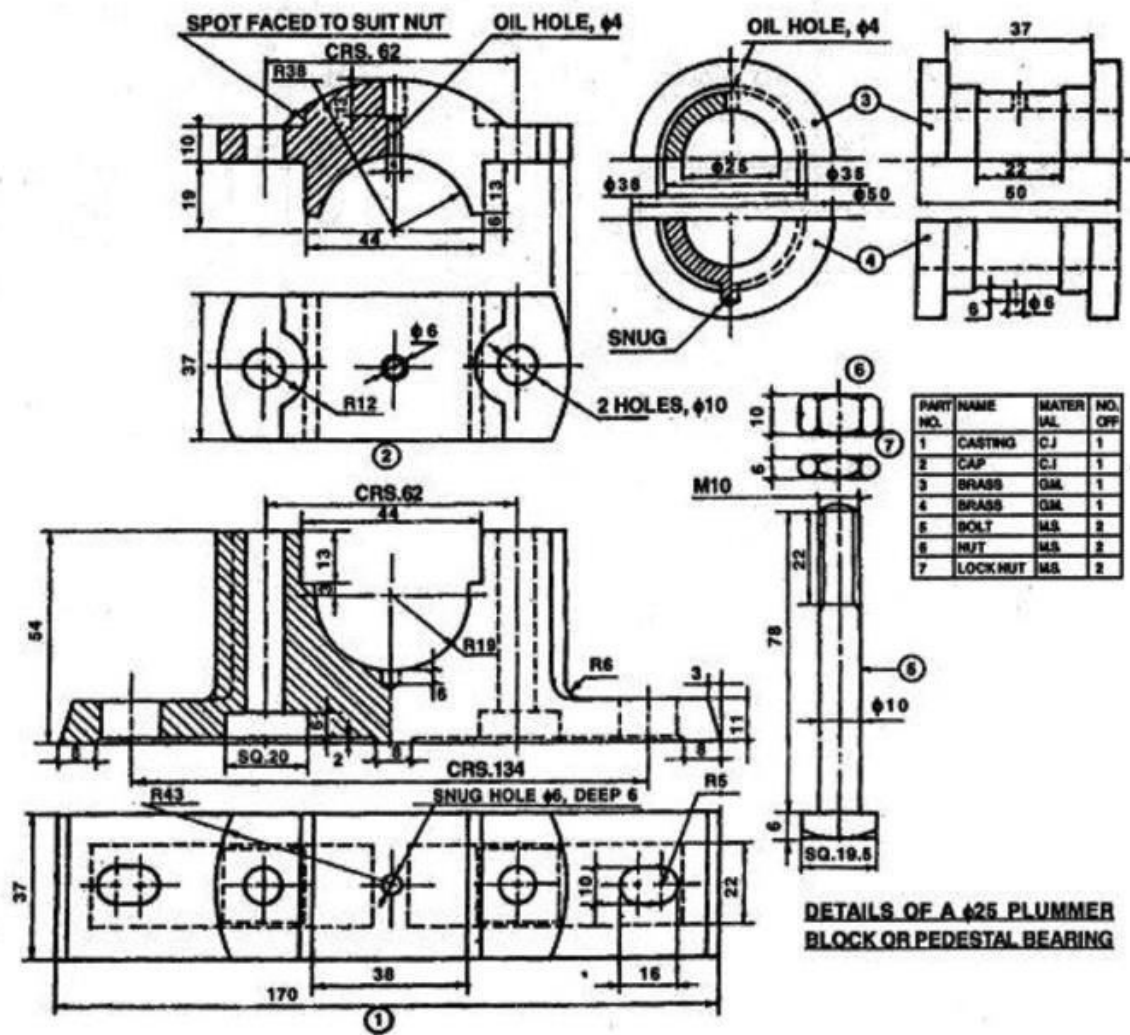

Figure 1 Details of a $\phi 25$ mm Plummer Block or Pedestal Bearing
3. Draw the assembled half sectional front view and top view of pedestal bearing shown in figure 1.